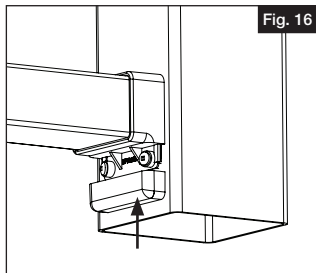

Fig. 16
- Slide bottom bracket covers snugly onto bottom brackets (Fig 16).